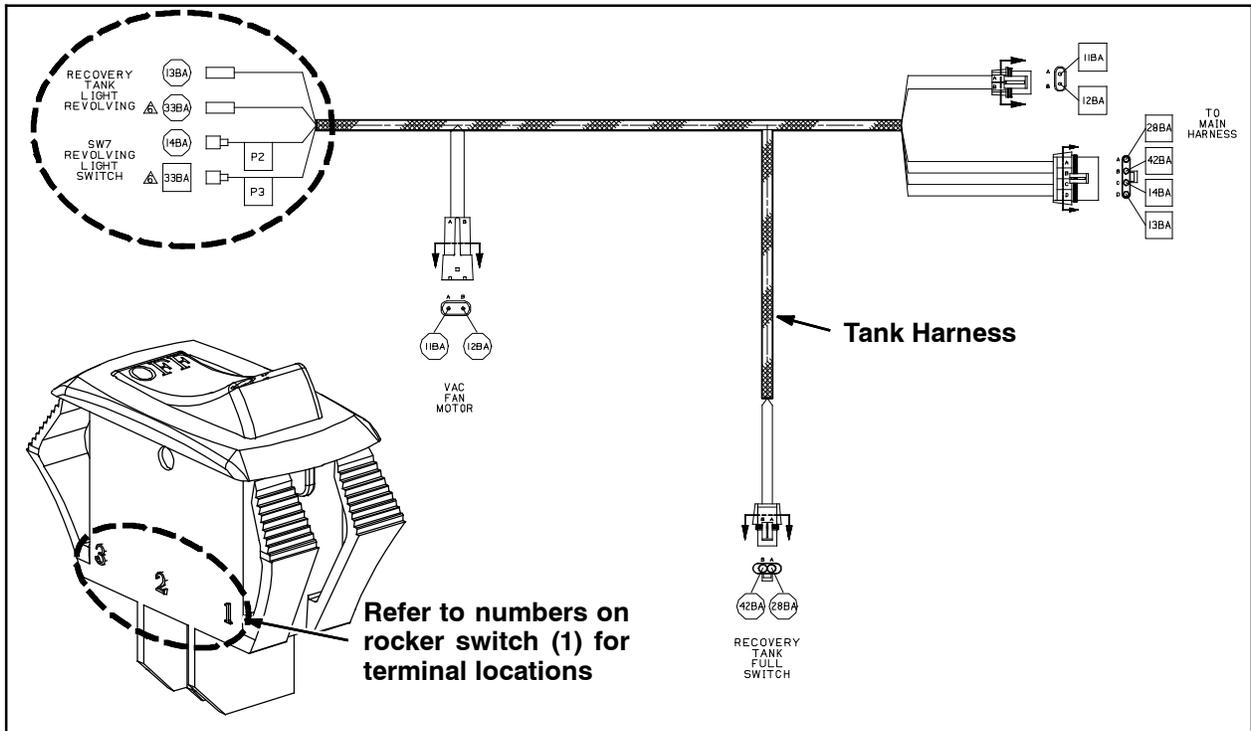
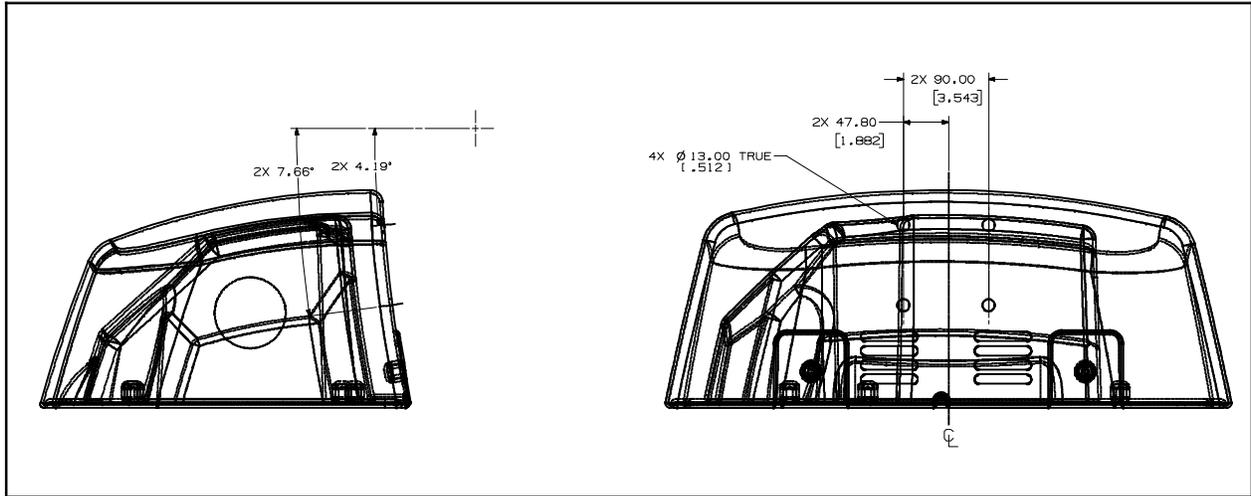

FIG. 2
FIG. 3
1. Center and hold the light bracket (5) over the top of the recovery tank cover so there is approximately a 1/8" gap between the bottom of the light bracket (5) and the top of the recovery tank cover.
2. Drill four 5/16" holes through the holes in the light bracket (5) and into the recovery tank cover. Refer to Fig. 3.
3. Remove the light bracket (5) from the recovery tank cover and widen the 5/16" holes with a 1/2" bit.
4. Install the rocker switch (10) into the light bracket (5).
5. Route the wires from the lamp of (1) through the base of (1) and through the hole in top of the light bracket (5).
6. Use two hex nuts (4) and two flat washers (3) to install the light assembly (1) onto the light bracket (5).
7. Loop the tie wrap (11) into the light bracket (5), route the wires from the light assembly (1) down through the tie wrap (1), and tighten the tie wrap (11) to secure the wires to the light bracket (5).
8. Use four hex screws (7), four lock washers (9), four flat washers (8), and four isolator nuts (6) to attach the light bracket (5) to the recovery tank cover.
9. Connect the loose wires from the light assembly to the tank harness Refer to Fig. 2.
10. Connect wires labeled P2 and P3 on the tank harness to the rocker switch (10). Refer to wire labels, markings on the rocker switch, and Fig. 2 for wiring information.